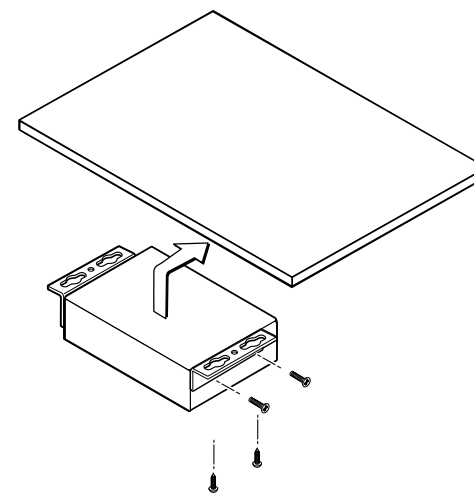

Figure 2-3 — Under-desk mounting
1. Secure the under-desk mounting brackets to the transmitter or receiver with the four machine screws provided in the mounting kit (figure 2-3).